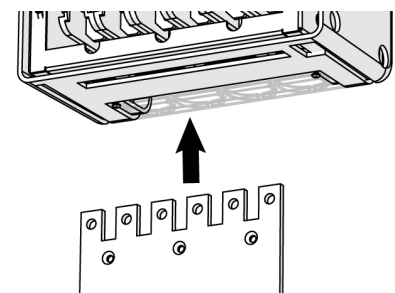

Figure 6. Termination Bus
Step 4. Insert the termination plate into the slot located on the bottom of the DCX battery disconnect chassis as shown in Fig. 6.